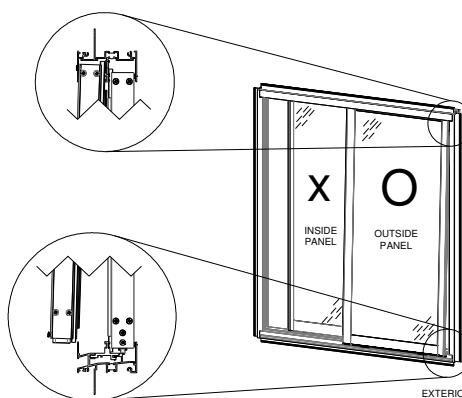

Figure 17:
2. Unscrew the T-Clip in the head (Figure 17).
3. Insert the panel into the upper head channel. Push up and swing the bottom inward until panel is vertical, then lower panel down onto the sill (Figure 17).